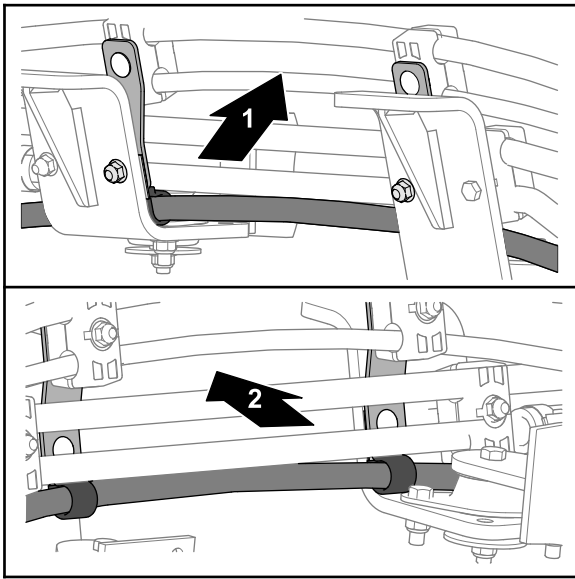

Figure 129
4. Secure the clamp mount plates and P-clamps to the engine mount brackets (Figure 128 and Figure 129) with the 2 carriage bolt (5/16 x 1 inch) and 2 flange locknut (5/16 inch).